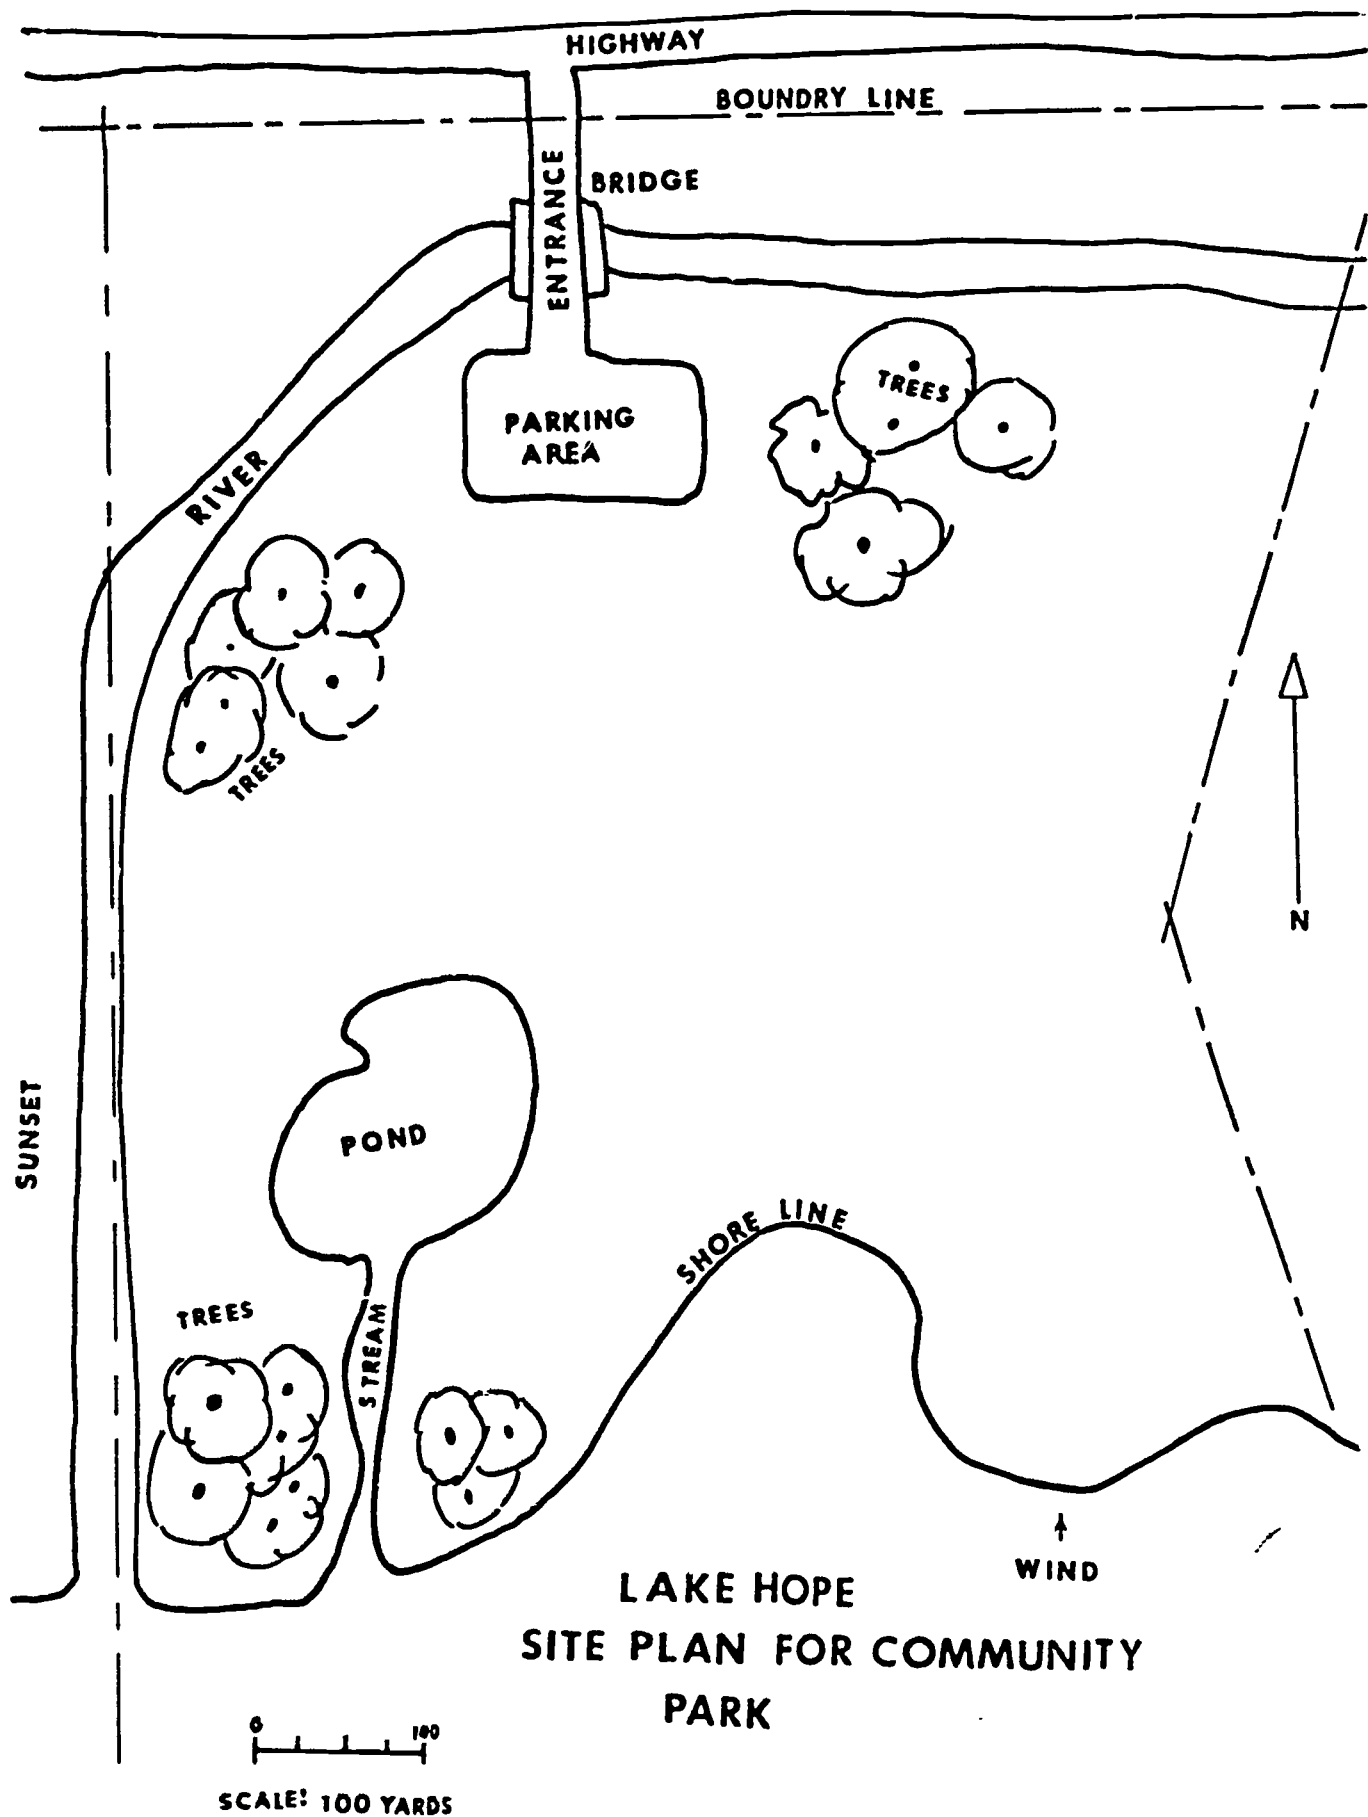

Fig. 21-1. Reproduction of Transparency 21-2
- 1 Transparencies 21-1, 21-2. See Fig. 21-1
The students are to sketch preliminary ideas for recreation areas and structures as a step in developing a design for a community park. Figure 21-1 shows the site plan with which they will be working for several days. A 4' x 4' site box could be modeled to represent the community park to help students visualize the area. See Assignment 56, Fig. 56-1 for box construction. The park area should be about 7 units wide by 9 units long.